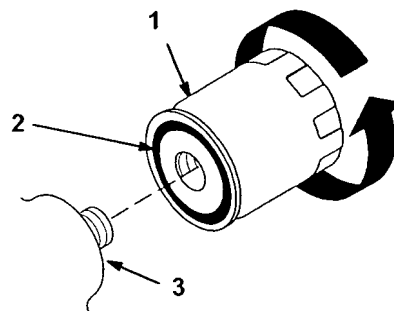

Figure 30
8. Install the replacement hydraulic filter onto the filter adapter. Tighten it clockwise until the rubber gasket contacts the filter adapter, then tighten the filter an additional 1/2 turn (Fig. 30).
7. Apply a thin coat hydraulic fluid to the rubber gasket on the replacement filter (Fig. 30).